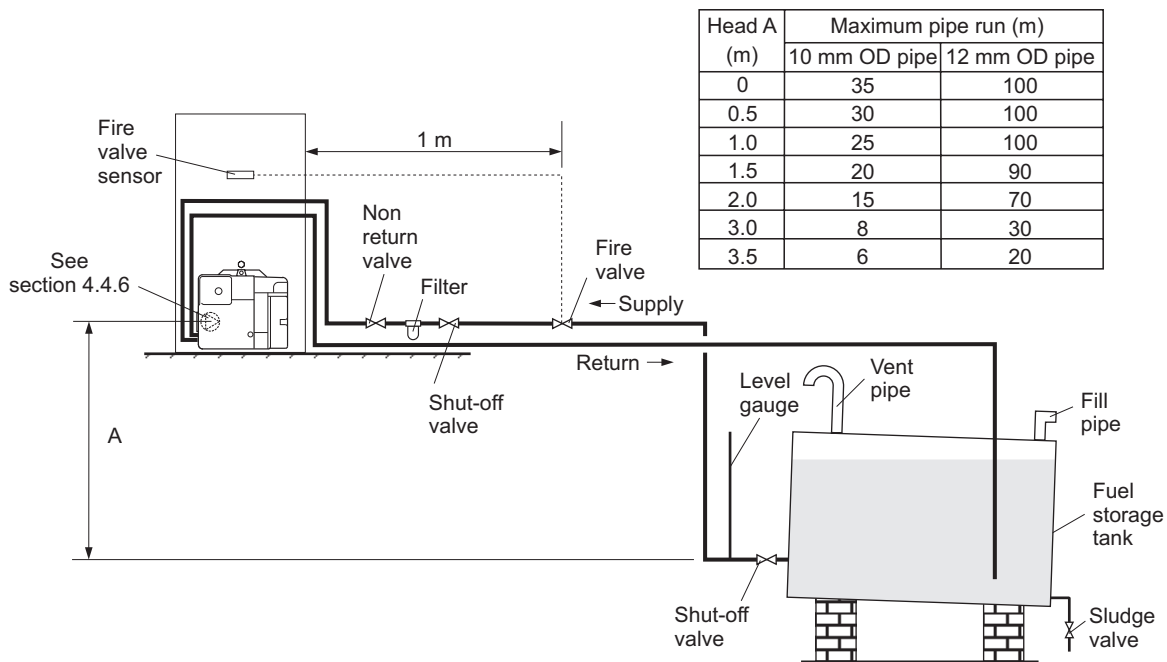

Fig. 3 - Two pipe system
4.4.4 Two pipe system - (See Fig. 3)
- 1 When the storage tank outlet is below the burner, the two pipe system should be used. The pipe runs should be as shown in Fig. 3. The return pipe should be at the same level in the tank as the supply pipe, both being 75 to 100 mm above the base of the tank. The pipe ends should be a sufficient distance apart so as to prevent any sediment disturbed by the return entering the supply pipe.